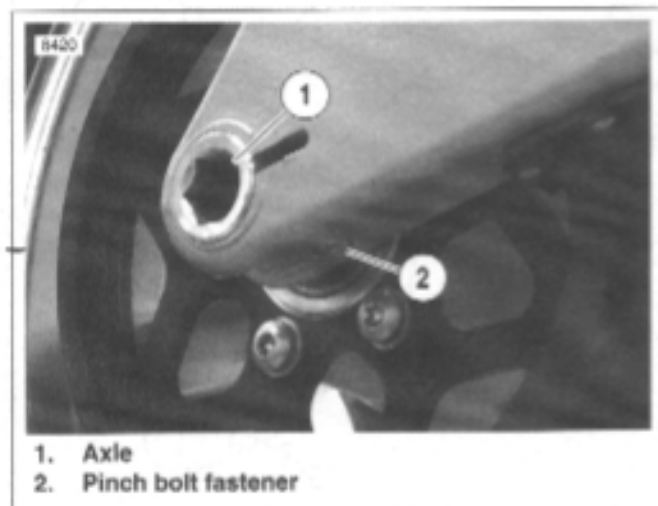

Figure 1-25. Rear Wheel Mounting, Right Side
1. See Figure 1-25. Loosen rear axle pinch fastener (2).
4. See Figure 1-25. Tighten rear axle to 48-52 ft-lbs (65-70 Nm).
5. Tighten rear axle pinch fastener (2) to 40-45 ft-lbs (54-61 Nm).